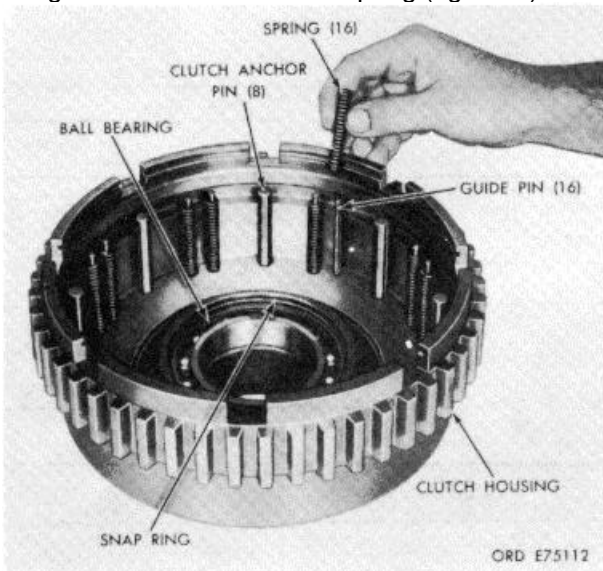

Figure 7-41. Installing output clutch piston return spring.
h. Install the ball bearing into the clutch housing and retain it with the snapping (fig. 7-41).
i. Install eight clutch anchor pins, 16 spring guide pins and 16 springs (fig. 7-41).